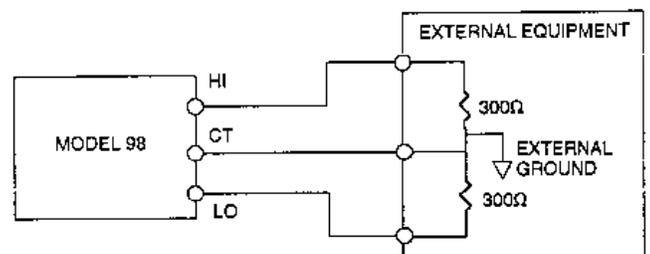

Figure 3-7. 600Ω Balanced Connections
4. Connect the 600Ω output (28) connector to load. Connect the center tap, CT (28) to the signal common of the equipment providing the load to the balanced outputs. See Figure 3-7 for correct connections.
5. Connect the SYNC OUT (23) connector as TTL clock signal or equipment synchronization signal.